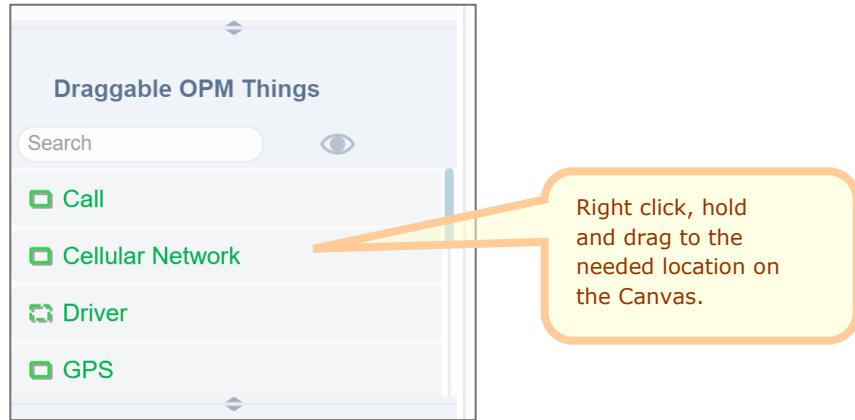

Figure 45. The Draggable OPM Things menu
**Call Transmitting** uses the **Cellular Network** and affects the **Call**. If **Cellular Network** were not drawn in SD1, we would have needed to bring it. You could have dragged it from the '**Draggable OPM Things**' menu in the left pane to the canvas (see Figure 45)